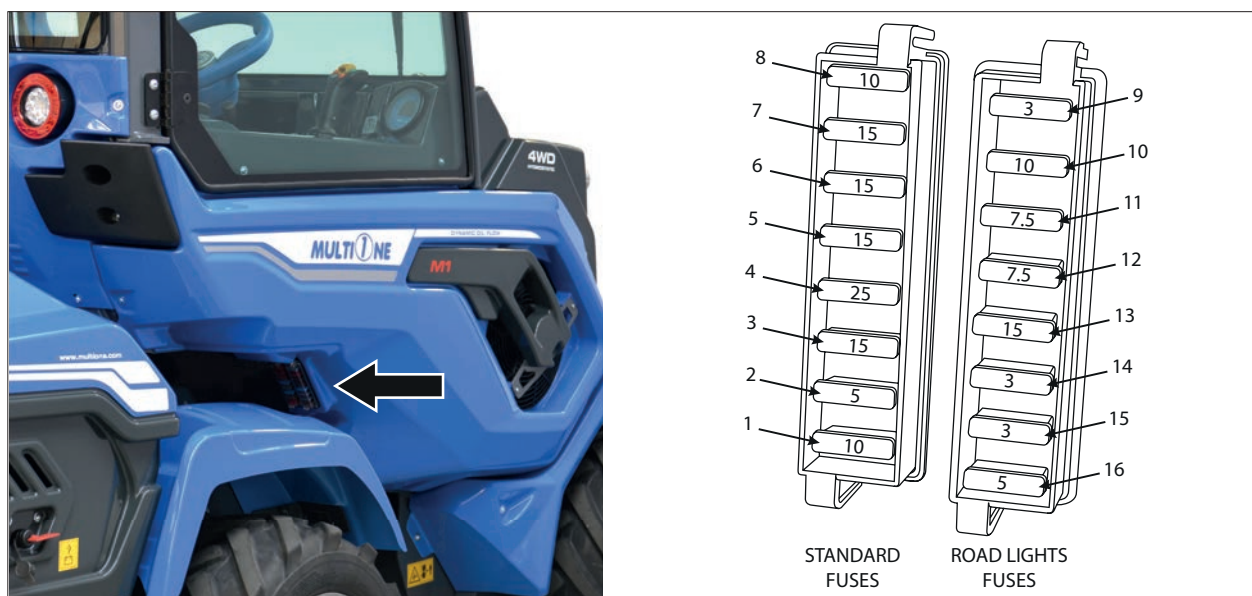

FIG. 45
- 1) Remove the cover located on the right side of the machine (see FIG. 45).